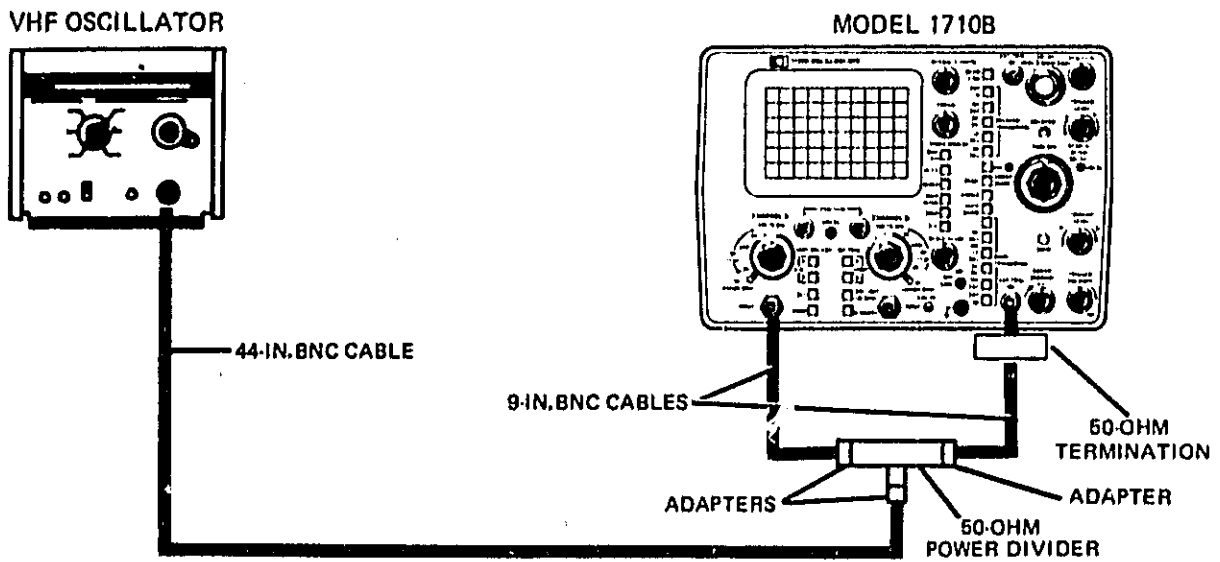

Figure 5-7. Trigger Level Test Setup
- a. Connect equipment as shown in figure 5-7.